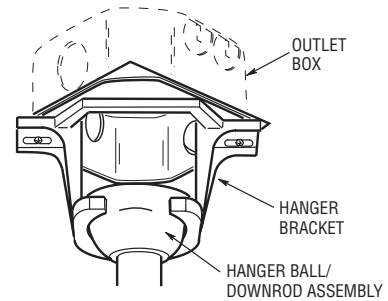

Figure 12
- Carefully lift the fan and seat the hanger ball/downrod assembly on the hanger bracket that was just attached to the outlet box (Figure 12). Be sure the groove in the ball is lined up with tab on the hanger bracket (Figure 11).